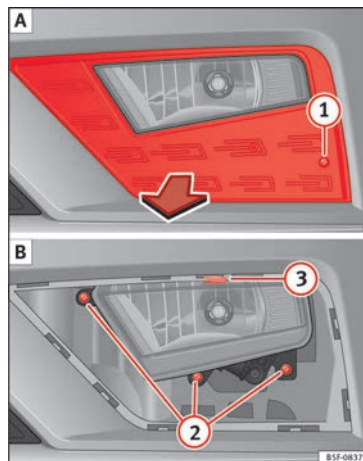
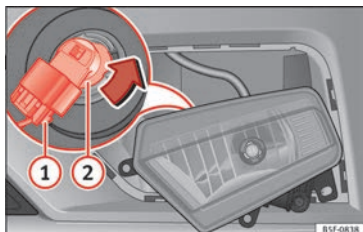

Fig. 109 Fog light: extracting the grille.
Fig. 110 Fog light: remove the bulb holder
1. Remove the screw » **Fig. 109** (1) **A** from the fog light grille using a screwdriver and extract the grille.
2. Remove the 3 screws » **Fig. 109** (2) **B**.
3. Remove the metal clip situated on the upper part of the fog light by pulling away from the vehicle (3) **B** and take the fog light out.
4. Remove the connector » **Fig. 110** (1) from the bulb.
5. Turn the bulb holder (2) anti-clockwise and pull.